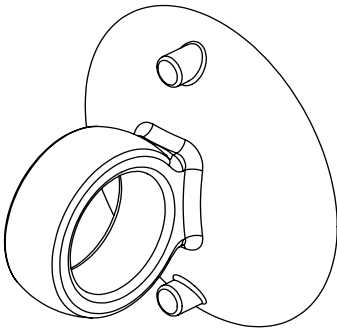

Figure 10: Suction Cup Removal Tool
When removing iPad assembly from frame, always use suction cup removal tool provided as shown in figure 10. Always attach suction cup to upper right or left corner of the iPad.
2. Attach the iPort suction cup removal tool (figure 10) to the UPPER left or right corner of the iPad touch screen.